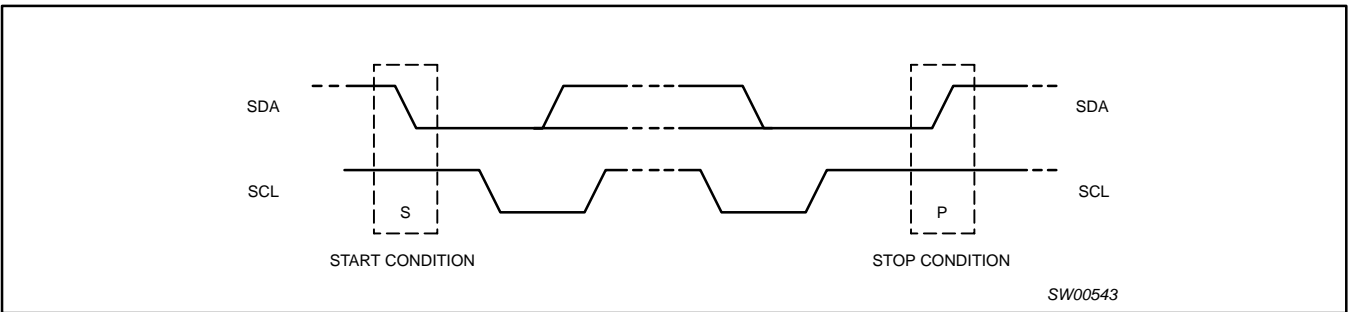

Figure 15. Definition of start and stop conditions
Both data and clock lines remain HIGH when the bus is not busy. A HIGH-to-LOW transition of the data line, while the clock is HIGH is defined as the start condition (S). A LOW-to-HIGH transition of the data line while the clock is HIGH is defined as the stop condition (P) (see Figure 15).